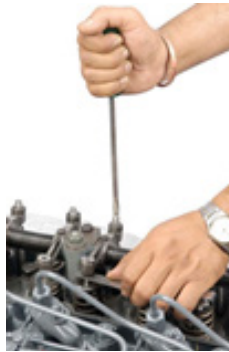

Figure 13
1. Loosen the lock nut of adjusting screw with one or two turns. Adjust the screw with screwdriver so that when locknut is retightened, the feeler gauge of 0.010 inch can be inserted and withdrawn with slight drag (Figure 13).